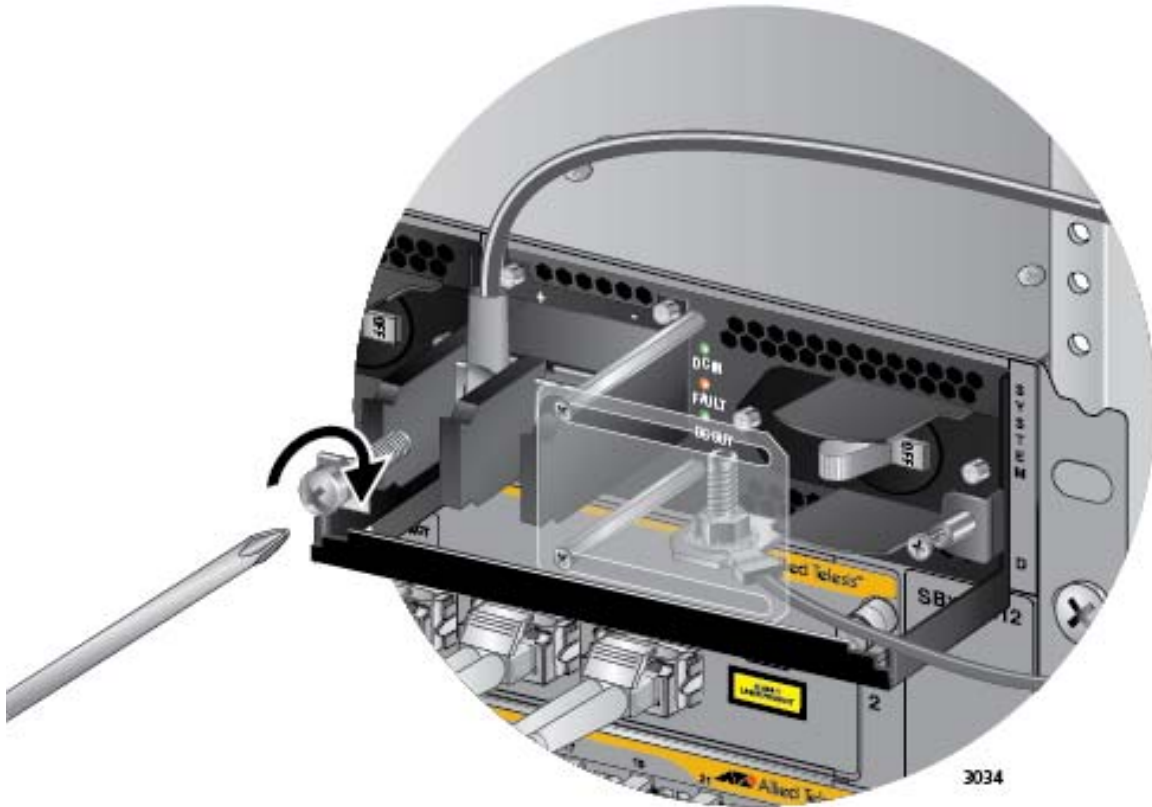

Figure 126. Connecting the Positive (+) Power Wire with a Straight Terminal
6. With a #3 Phillips-head screwdriver, connect the positive (+) power lead wire to the positive terminal on the power supply, with one of the terminal screws removed in the previous step. The positive terminal is on the left. You may attach the terminals with the wires either above or below the terminal block. Figure 126 on page 192 shows the positive wire above the terminal block.